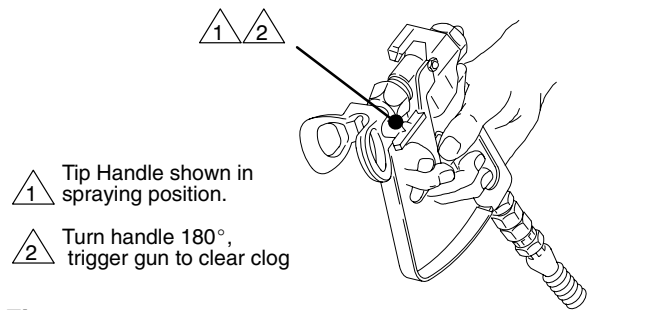

Fig. 5
The tip guard alerts you to the risk and helps prevent placing any part of the body close to the spray tip. The tip guard also adjusts the vertical or horizontal spray pattern. See page 13. The tip guard holds a reversing spray tip. The tip is in the spraying position when the tip handle points forward. See Fig. 5.
1. Release the gun trigger. Engage the safety latch. Rotate the RAC IV tip handle 180°. See Fig. 5.